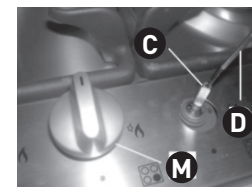

Fig. 14
- Insert a small screwdriver D into the hole C (fig. 14) and turn the gas adjustment screw to the right or left until the burner flame is correctly set to the minimum position.